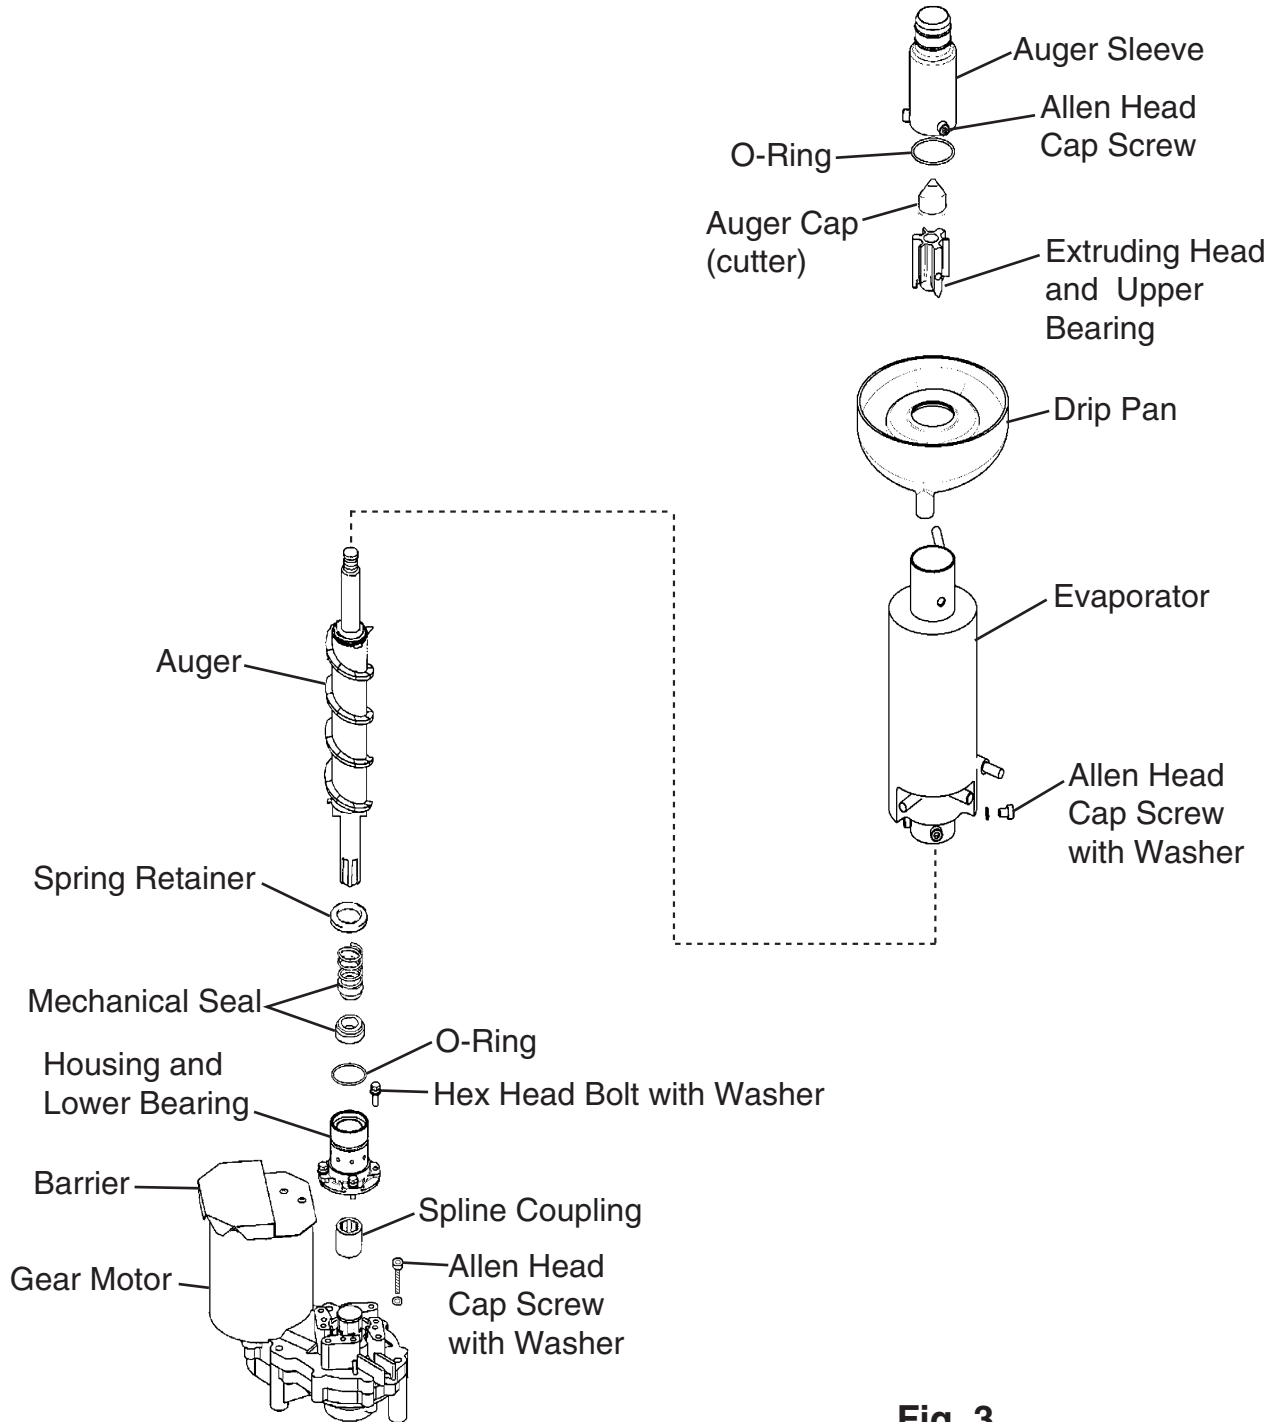

Fig. 3
- 2) Remove the allen head cap screws and lift off the auger sleeve and remove the auger cap. See Fig. 3.
- 3) Remove the allen head cap screws and lift off the auger sleeve. Remove the auger cap. See Fig. 3.
- 3) Remove the allen head cap screws and lift off the auger sleeve. Using the auger cap, lift out the auger assembly. See Fig. 3.
- 4) Remove the allen head cap screws and lift off the auger sleeve. Using the auger cap, lift out the auger assembly. See Fig. 3.